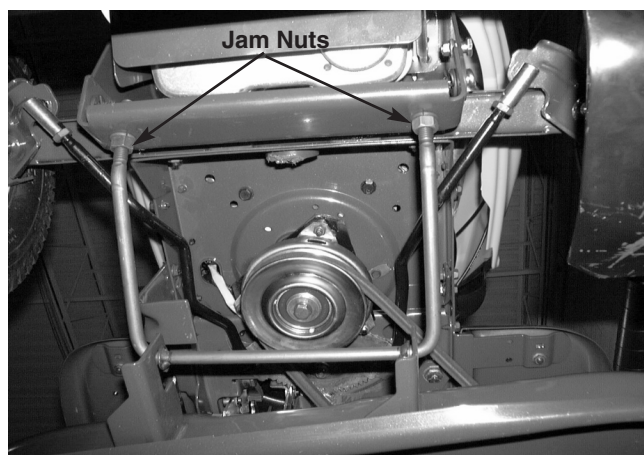

FIGURE 3.
- 5). Loosen both two jam nuts on the rear side of the deck stabilizer bracket using a 3/4" wrench. See figure 3.